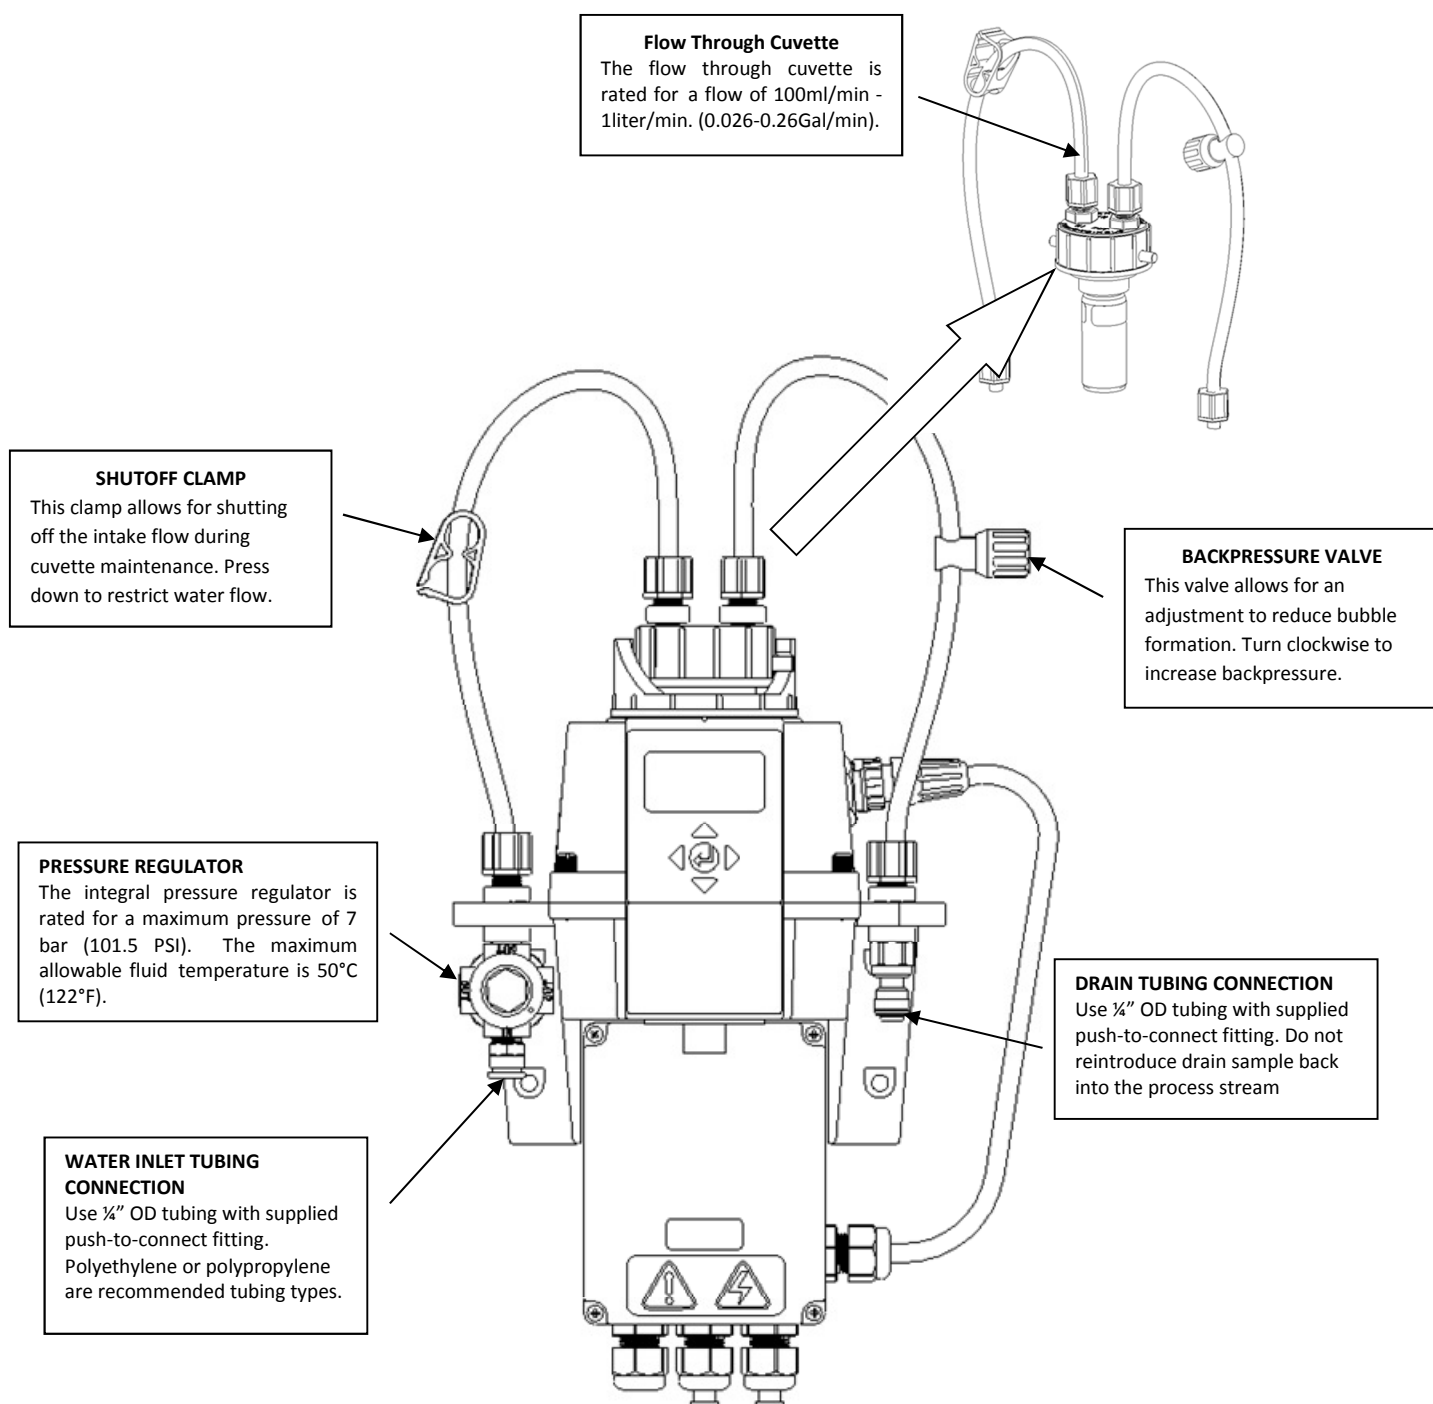

Figure 4 Instrument parts identification
- e. Push the tube into the Quick-Connect fitting on the right facing side of the MTOL+, as shown in Figure 4.
- e. Push the tube into the Quick-Connect fitting on the left facing side of the MTOL+, as shown in Figure 4.